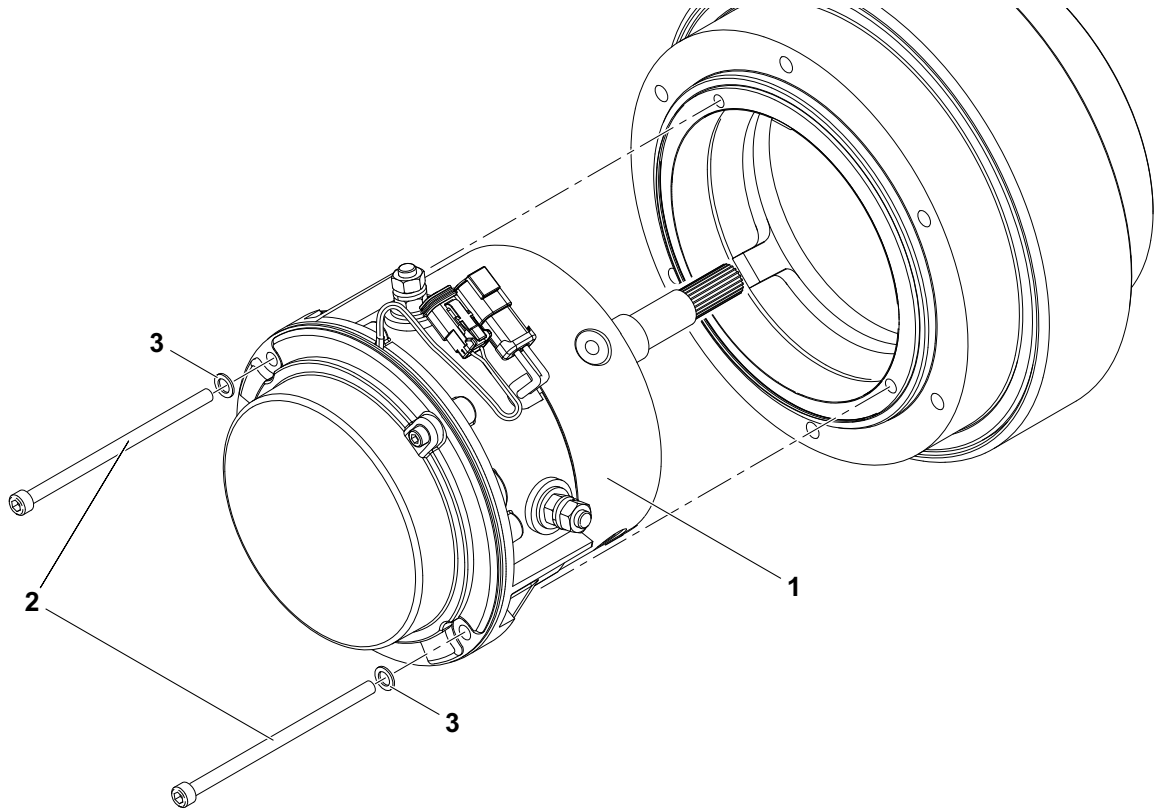

Figure 3-23. Electric Drive Motor Removal
- Remove the two Cover Plate Mounting Screws (14) holding the Cover Plate (13) in place and remove the cover plate from the motor.
- Remove the Brake Cover Mounting Screws (15) holding the Brake (11) in place and set aside. These screws are used to manually release the brakes.
- Remove the two Terminal Cover Mounting Screws (16). Slide the strain relief of the Wire Harness (1) out of the cover and remove the cover from the motor.
- Discard the Gasket (12) that was located under the brake and terminal covers.
- Install the two Brake Cover Mounting Screws (15) into the threaded holes in the brake assembly and tighten to manually release the brake (see Figure 3-23.).
- Remove the screws holding the Commutator End Head (9) in place and remove the commutator end head from the frame and field assembly. The Arma-
- ture (2) will be attached to the commutator end head.
9. Pull back the Brush Springs (4) in the commutator end head, pull the brush back and rest the springs on the side of the brush. The brushes should move freely within the holders.
11. Remove the Snap Ring (7) and Bearing (8) from the commutator end head. Discard the bearing.